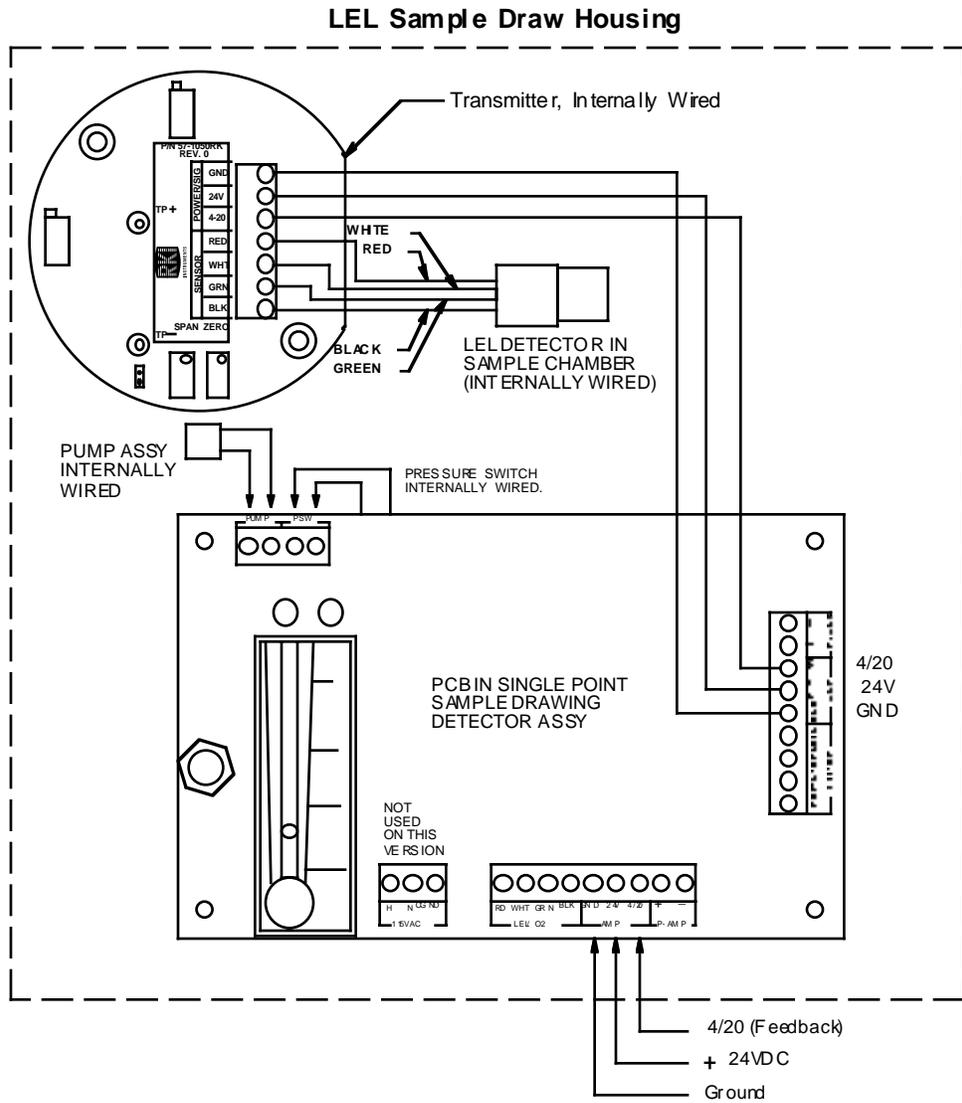

Figure 4: Wiring the Sample Draw Combustible Gas Detector
3. Connect the cable to the sample draw detector’s interconnect terminal strip as shown in Figure 4.